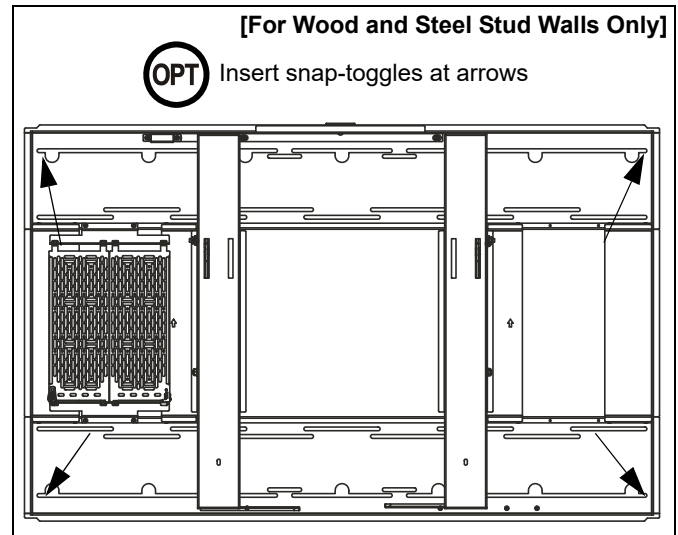

Figure 6
IMPORTANT ! : (OPTIONAL) For additional rigidity in the installation, use a Snap-Toggle (AC) at each corner of the rear frame if it is not attached to the studs at those points. (See Figure 6)